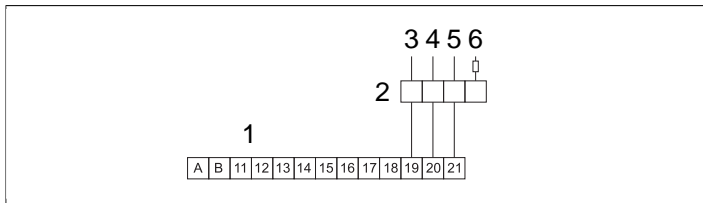

Figure 17: Wiring diagram for external ON/OFF switch
Connect the switch using low voltage wire (see **Figure 17**, Page 7 pos 4).